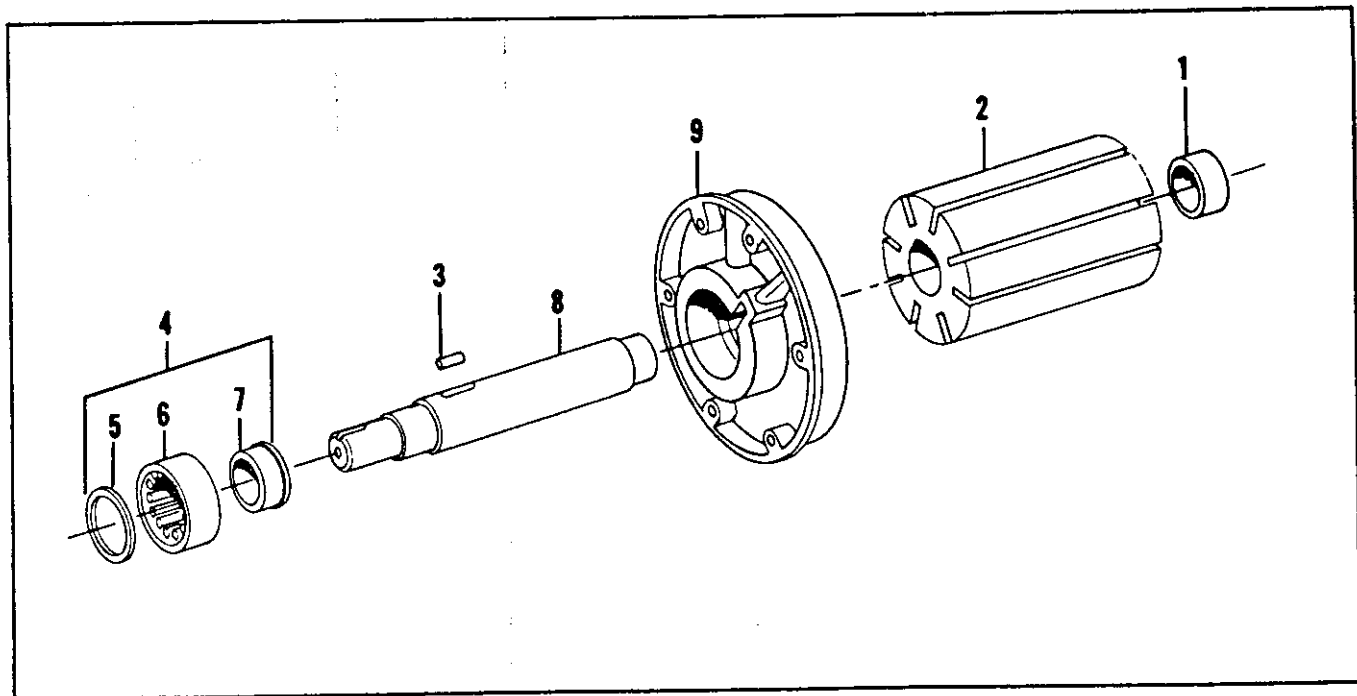

Figure 3-3. Rotor assembly
Do not disassemble rotor and drive end cover assembly (89) unless it is determined that a part must be replaced. To disassemble rotor and drive end cover assembly, refer to figure 3-3. Remove nondrive end bearing inner race by first applying a suitable gear puller. If inner race fails to move, apply heat from a torch and heat the inner race evenly. Apply gear puller and remove race.
b. Remove minor nicks or scratches from machined surfaces of rotor (2, Fig. 3-3) and stator (103, Fig. 5-20) with a fine honing stone or emery cloth. If extremely scored or galled, replace damaged parts.
a. Coat O-rings, blades, and internal machined parts with clean lubricating oil at time of reassembly. Reassemble rotor (Fig. 3-3 and 3-4) with the follow-